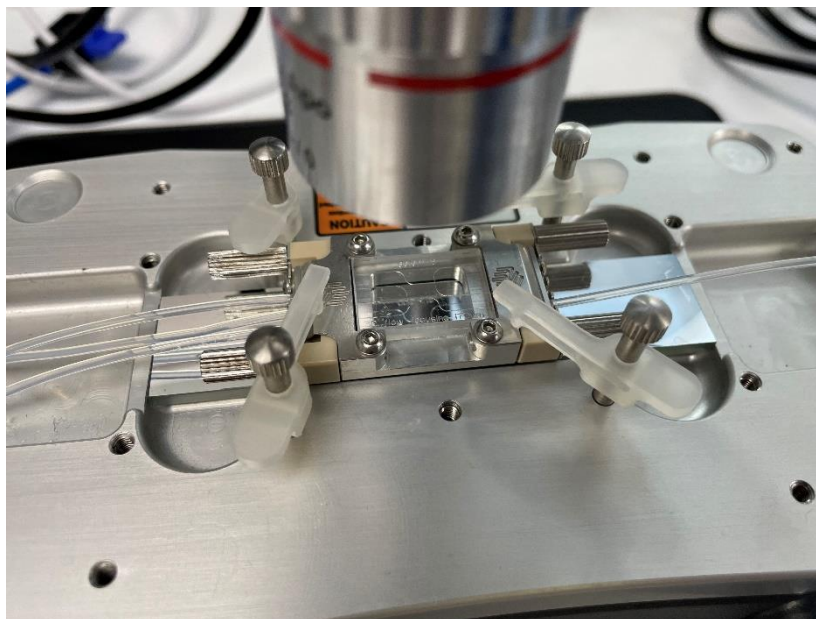

Figure 28 Chip assembly on Microscope Light Stage
Step 6: Place the assembly on the Microscope Light Stage, using the clips to keep the Chip in place (Figure 28). The fluidic network is complete, place the end of the output tubing into a collection vessel.